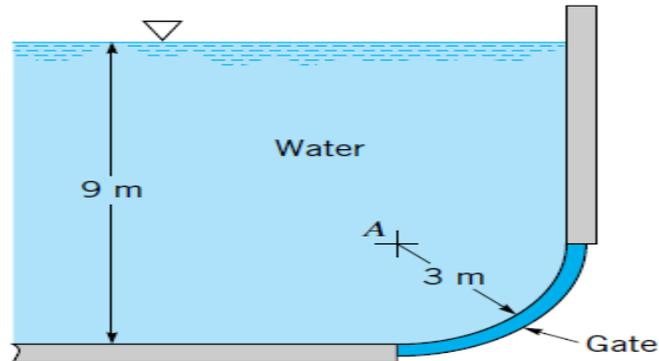

Fig. 10
12. A 4-m-long curved gate is located in the side of a reservoir containing water as shown in Fig. 10. Determine the magnitude of the horizontal and vertical components of the force of the water on the gate. Will this force pass through point A? Explain.